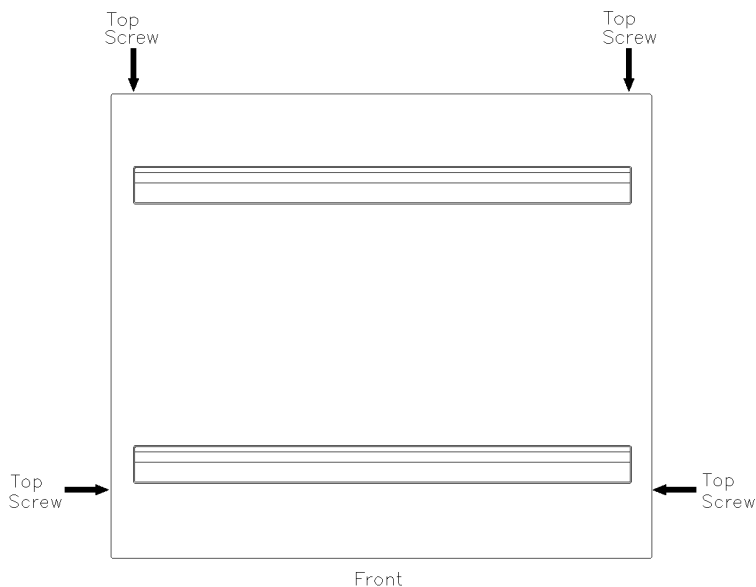

Figure 3-1. Top Cover
- The top cover of the HP 1047A is removed as shown in Figure 3-1. The top cover must be removed for most of the procedures described herein.